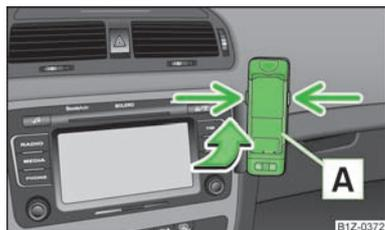

Fig. 106
- > First of all push the adapter **A** in the direction of the arrow » Fig. 106 up to the stop into the mount. Then press the adapter slightly downwards, until it locks securely into position.
- > Simultaneously press the locks on the mount » Fig. 106 and remove the adapter with the mobile phone.